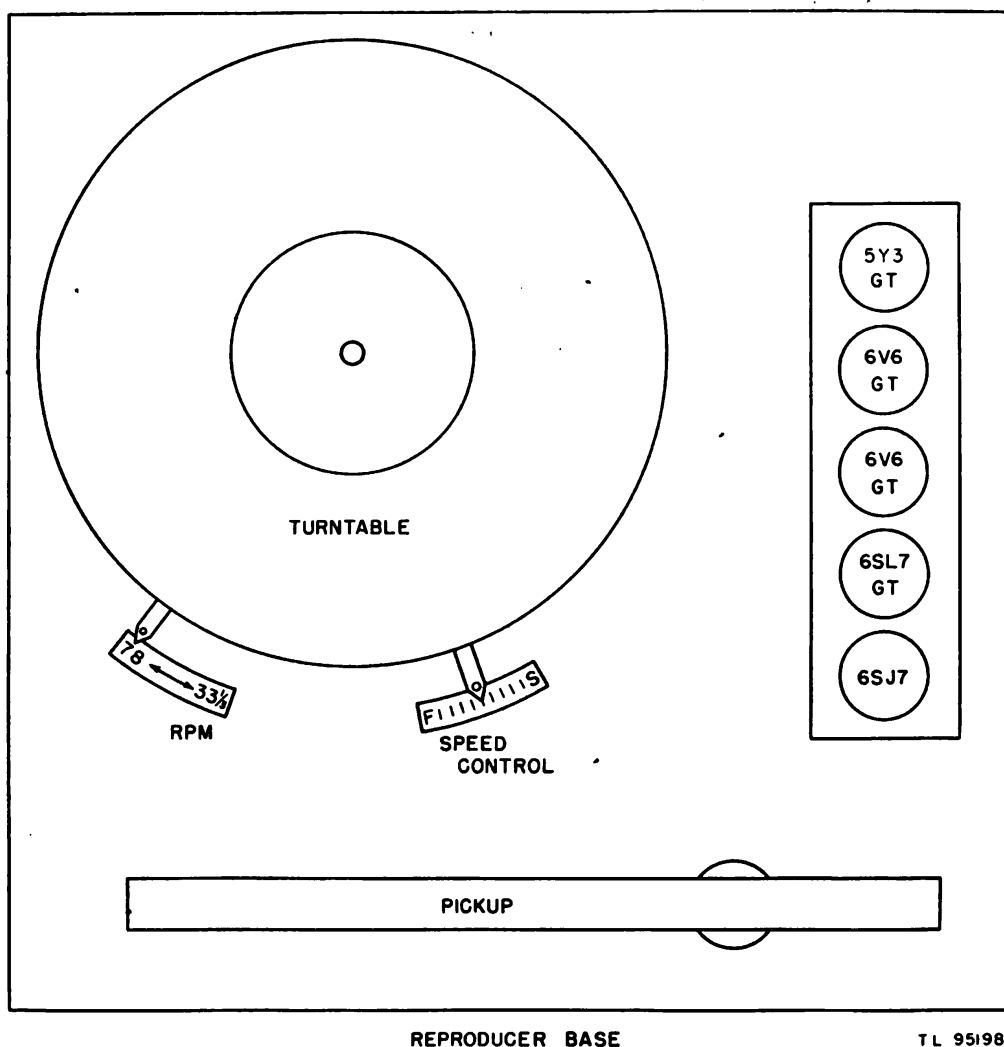

Figure 7. Top view of reproducer amplifier unit.
The turntable motor is provided with two controls in the form of levers extending out from under the turntable (fig. 7).
- (3) Allow 30 seconds for the amplifier to warm up, then rub the ball of thumb across the needle in the pick-up arm until a clicking sound is heard in the speaker.
- (4) Determine the recording speed of the record to be used by examining the title plate of the record. There will be an indication on the title plate as to whether the recording speed was $33\frac{1}{3}$ or 78 revolutions per minute.
- (5) Move the lever controlling the speed to the proper speed of the recording (fig. 7). *This must be done while the motor is running.*
- (6) Set the speed regulator lever at the center line of the plate (fig. 7).
- (7) Place the record on the turntable.
- (8) Release the pick-up from its holding bracket by loosening the holding nut and lower the pick-up gently until its needle enters the starting groove
a. Feel (F). Remove the turntable and feel the motor frame for indications of overheating. The turntable is removed by lifting it off the shaft.
b. Inspect (I). (1) Inspect the motor for discoloration, indication of overheating, and for dirt, dust, fungus, and mildew.
(2) Test any connections and mounting bolts which appear to be loose.
c. Tighten (T). Tighten loose connections and mounting bolts.
d. Clean (C). Remove all dust, dirt, lint, and oil from the motor. Use a clean, dry, lint-free cloth. Remove any accumulation of oil from around the three oil holes.
e. Adjust (A). The speed regulator lever allows 5 percent variation above or below the nominal speed. Nominal speed is attained when the lever pointer is centered over the center line of the plate (fig. 7).